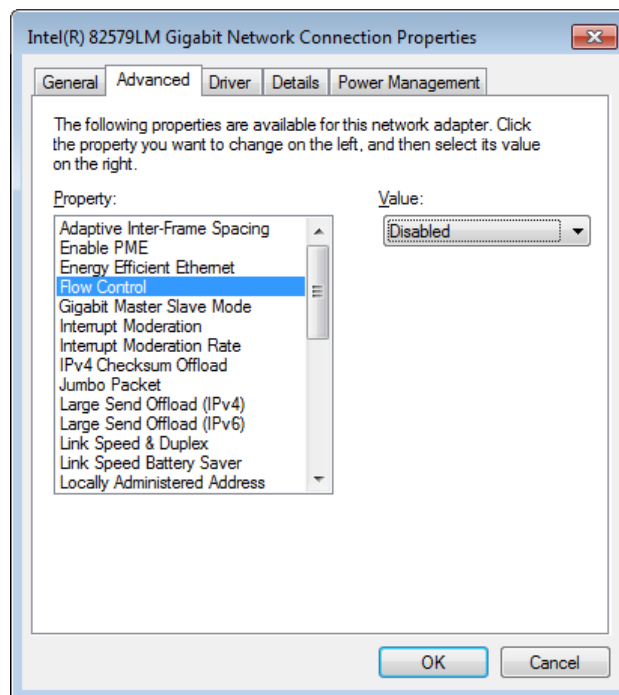

Figure 103: Network interface card - advanced driver settings - Flow Control
4. The settings of the driver can be accessed by choosing the *Advanced* tab of the opened window. As shown in Figure 103 , set the value of the *Interrupt Moderation Rate* property to *Disabled*.